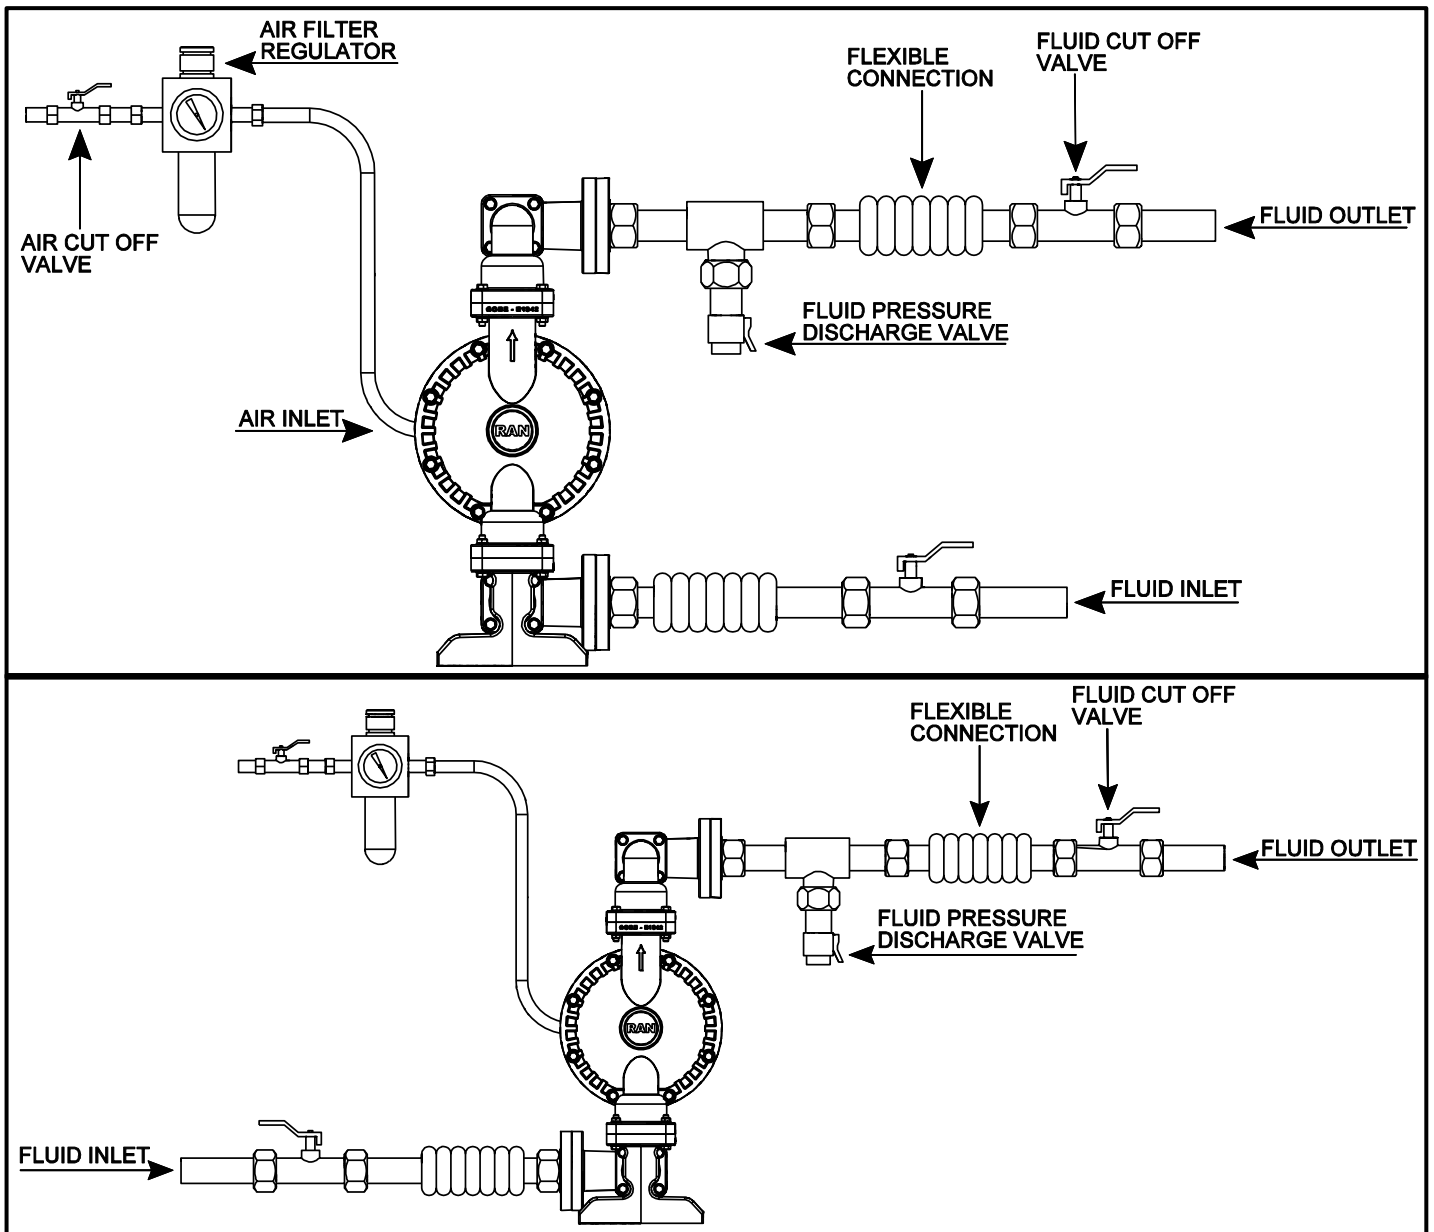

Figure 8a - Typical installation scheme
A bleed-type master air valve is required in your system to relieve air trapped between this valve and the pump. Trapped air can cause the pump to cycle unexpectedly, which could result in serious injury, including splashing in the eyes or on the skin, injury from moving parts, or contamination from hazardous fluids. See Fig. 8a.
**1-** Refer to the Figure 8a for the connection scheme. Fix these accessories to the wall or to a bracket. The air line feeding the accessories must be grounded.